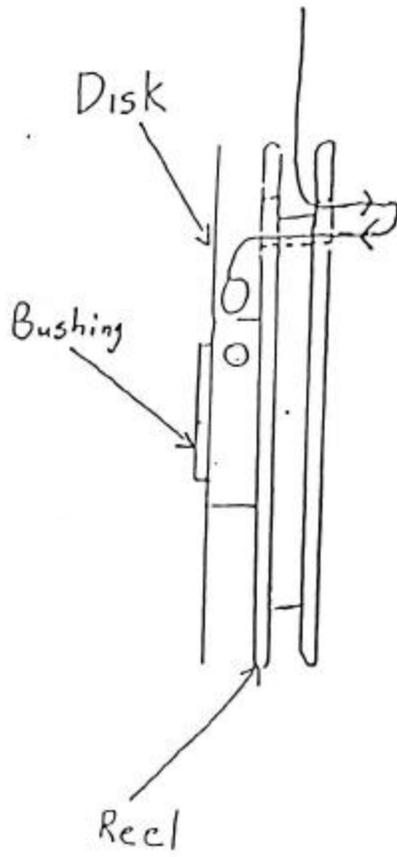

Figure 1-1
- 4) Remove the cover from over the Encoder wheel (B).
- 6) Insert the soft eyelet of the new cable up through the air box and over the first pulley (C).
- 7) Loop the cable around the second pulley (D), so that it leads to the left.
- 8) Go over pulley (E), and lead the cable down.
- 9) Lead the cable through the deadweight pulley (F) from left to right, than up and over pulley (G).
- 10) Slowly pull cable and guide the deadweight into its tracks until the retaining screw and nut can be replaced (A).
- 11) Run the cable down and around pulley (H) and over to the encoder wheel. See figure 1-1 for cable / wheel attachment.
- 14) Reconnect the cable and the hose to the picker head, with cable-end pulley (I).